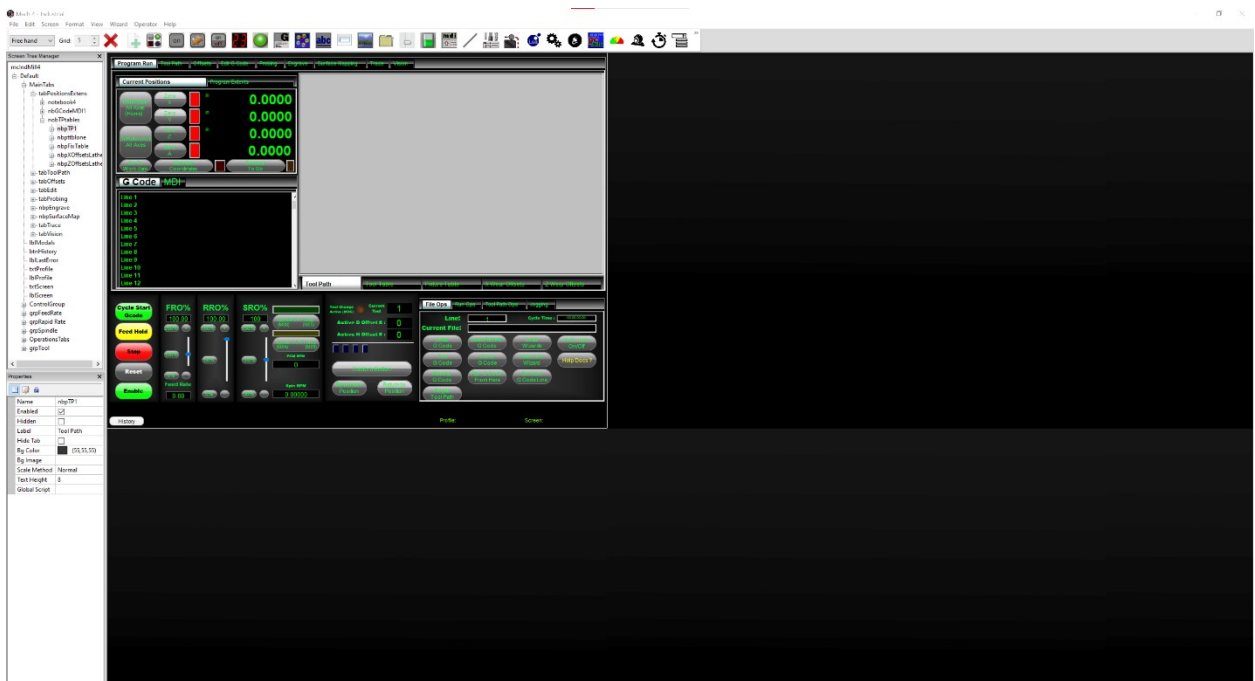

Figure 2-10: Mach4 screen editor
- **Edit Screen:** Switches Mach4 to the screen editing mode, see figure 2-10.